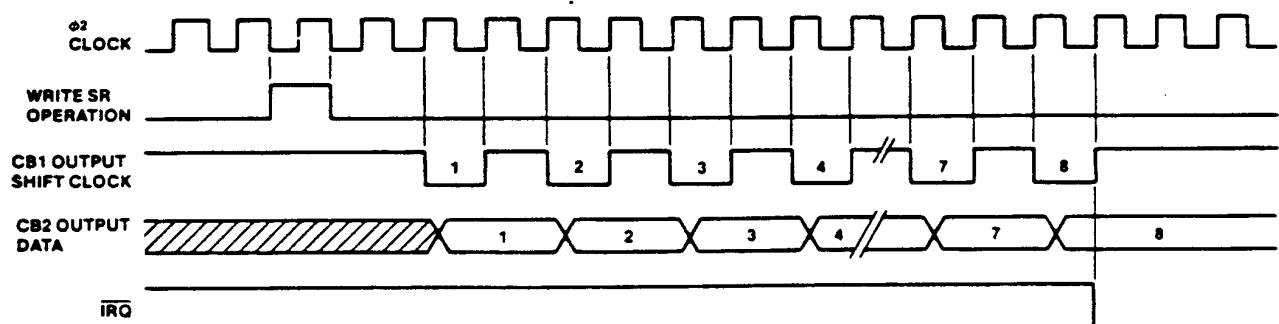

Figure 35. Shift Out—φ2 Control
Shift Out— $\phi 2$ Clock Control (110)—In this mode, the shift rate is controlled by the system $\phi 2$ Clock. Refer to Figure 35.